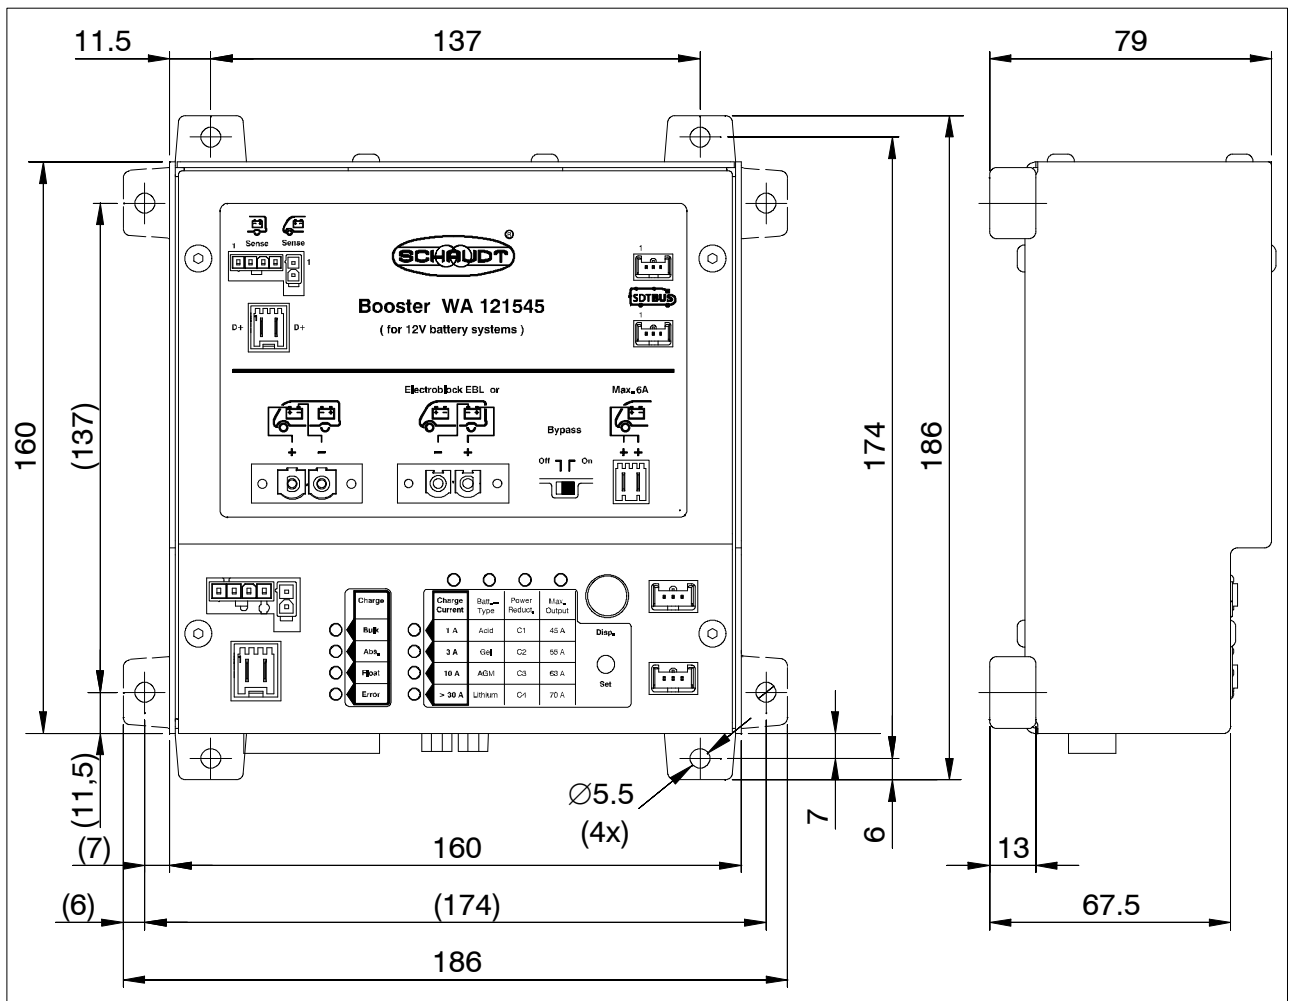

Fig. 2 Dimensional diagram for WA 121545 Booster (the numbers in brackets are for alternative installation of the attachment feet)
- ▲ The attachment feet are either on the side or fitted down/upwards depending on variant. This gives a hole pattern of 174 mm x 137 mm (horizontal alignment as in Figure 2) or 137 mm x 174 mm (vertical alignment).